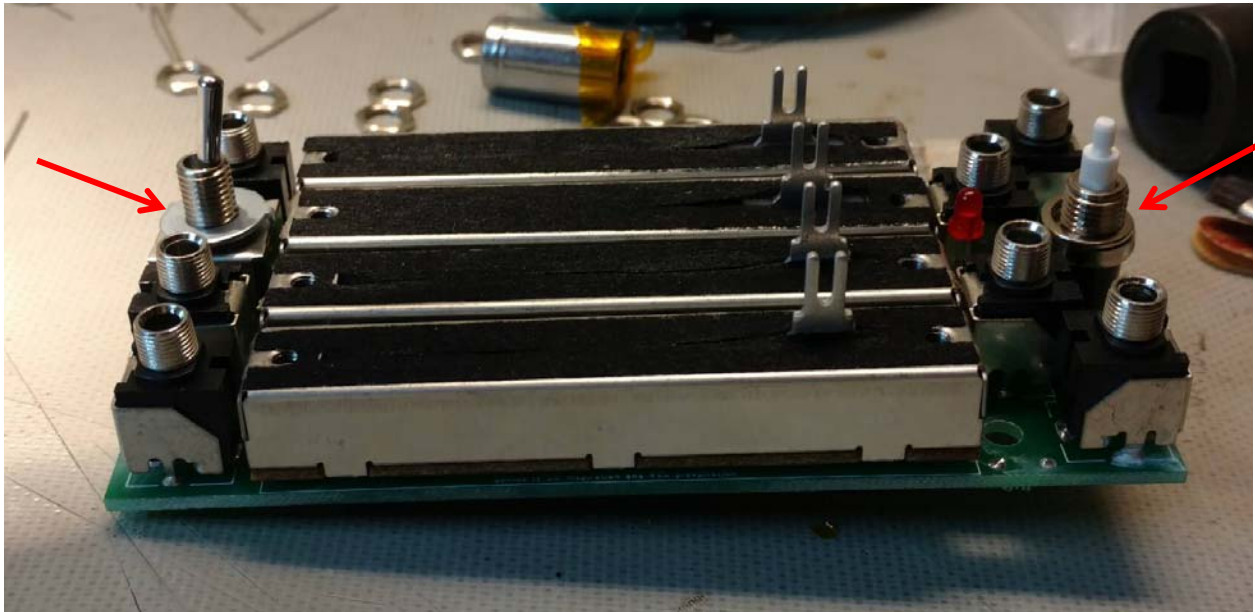

Figure 3: Place the washers on the toggle and pushbutton switches UNDER the panel for a better fit
- 4) If you use the pushbutton switch in the BOM, I found that putting the lock washer under the panel works best. Likewise, put the keying washer upside-down on the toggle switch (see Figure 3)